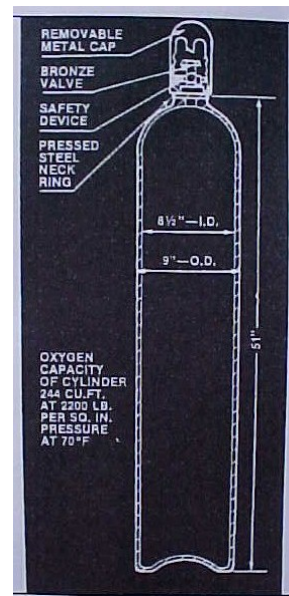

Figure 1
2.1 Figure 1 presents the typical components of a compressed gas cylinder: